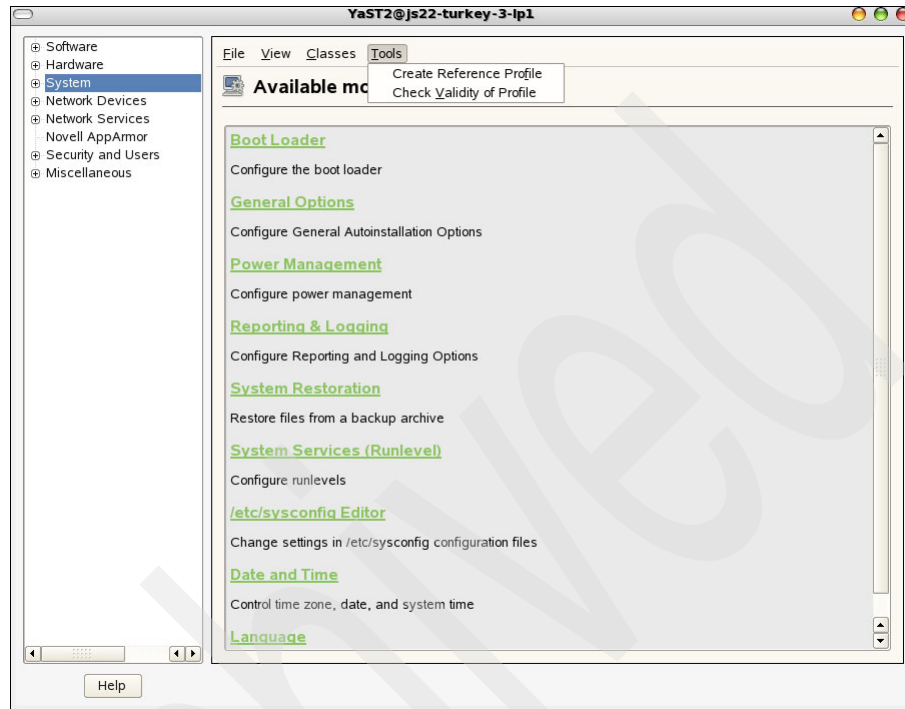

Figure C-5 Create a reference profile
3. Clone the configuration of the installation server by selecting **Tools** → **Create Reference Profile**, as shown in Figure C-5.